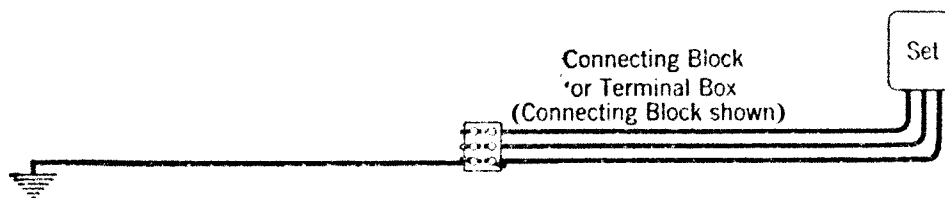

Fig. 4.
5.07 **Wiring to Connecting Block or Terminal Box without Ground Connection When Station and Ground Wires Are Run in Same Direction:** (In Figs. 4 to 6 consider terminal box as a connecting block.) If ground is beyond the block, use a three-post connecting block. Use triple wire from set to block and single wire from block to ground connection as shown in Fig. 4.